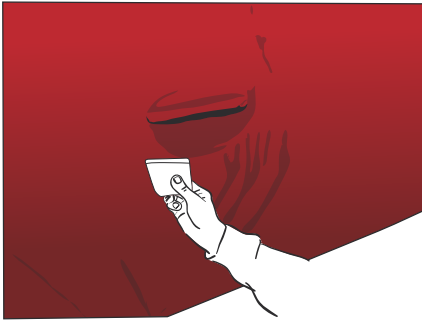

Figure 21
- › Stretch the film over the door handles and, using a squeegee, apply the film all around the door handles. (FIG. 21)